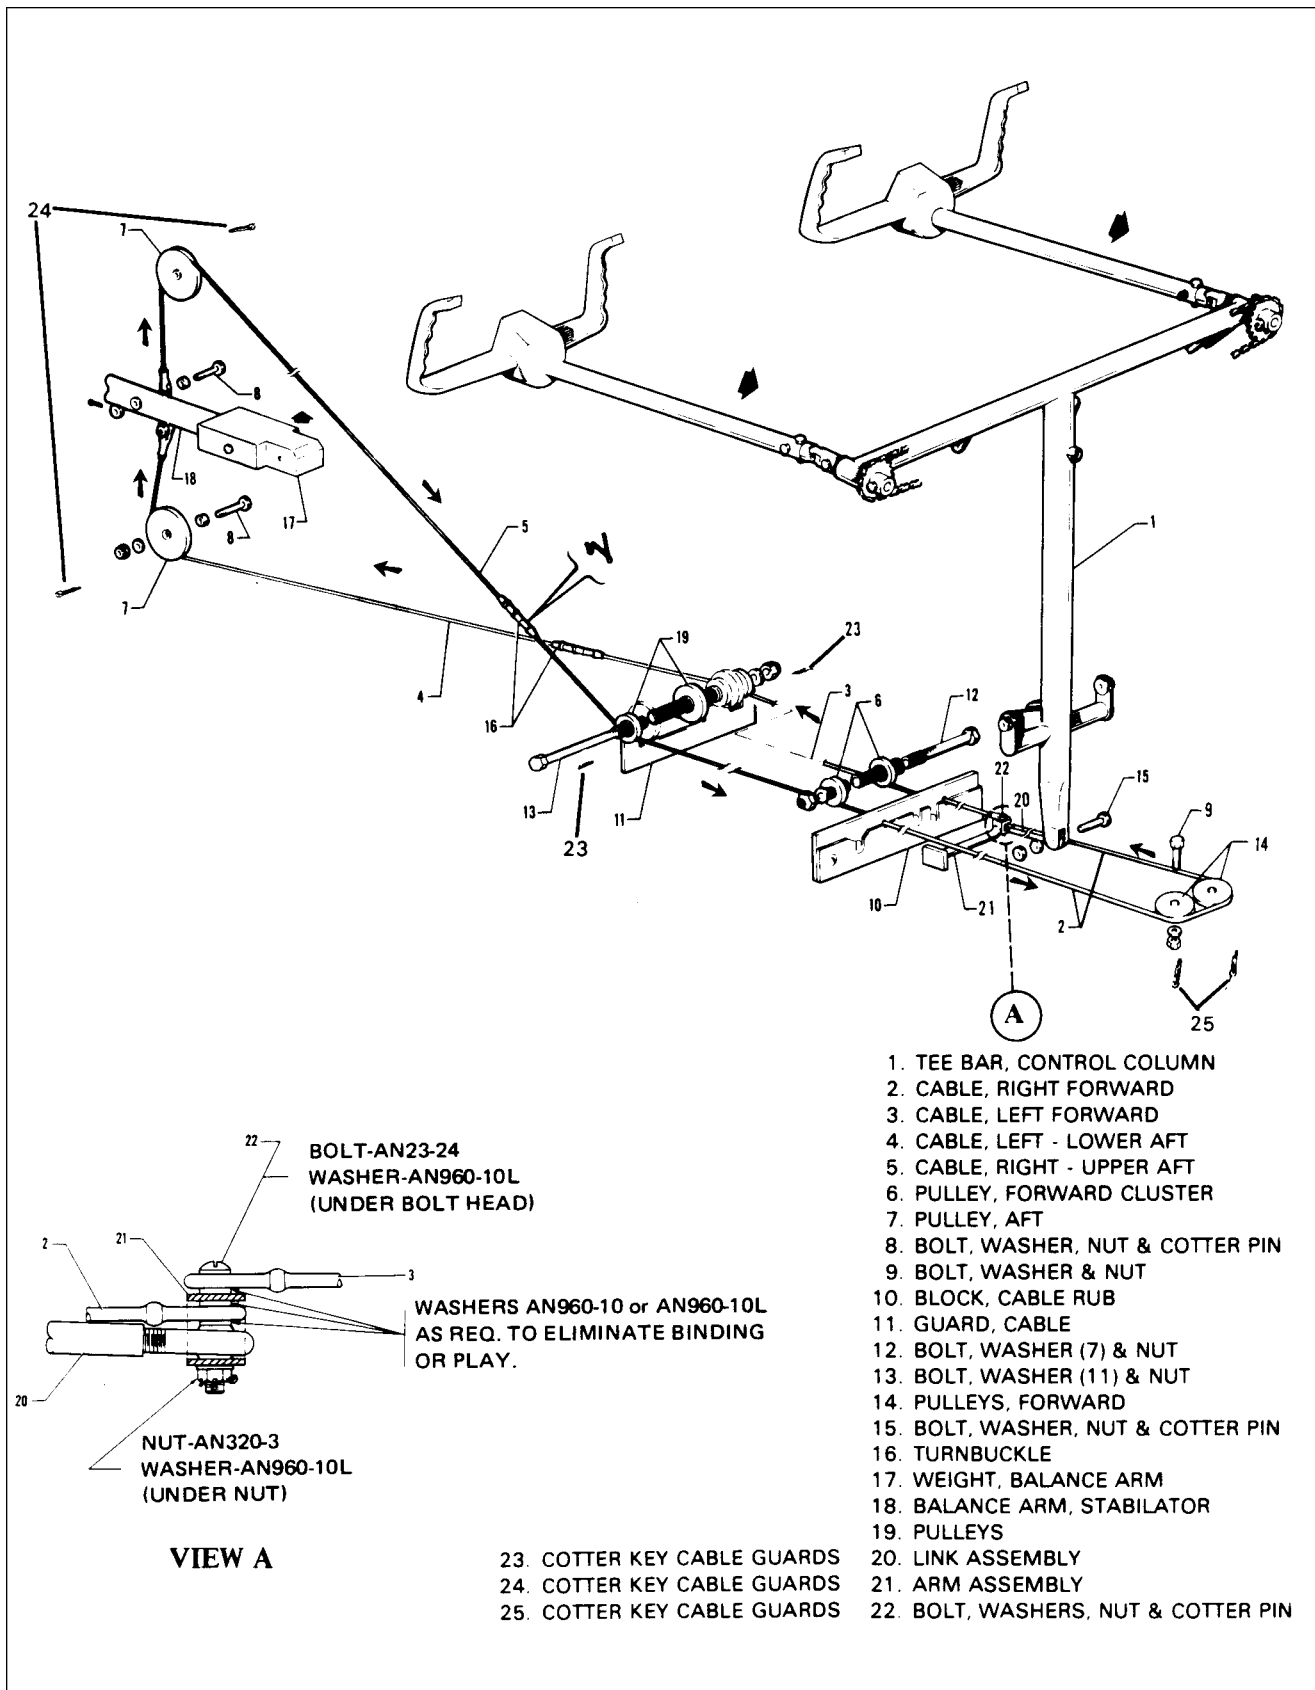

Figure 5-6. Stabilator Controls
#### 5-14. REMOVAL OF STABILATOR CONTROL CABLES. (Refer to Figure 5-6.)
#### 5-15. INSTALLATION OF STABILATOR CONTROL CABLES. (Refer to Figure 5-6.)
- 1. Draw the control cable through the floor tunnel. Ascertain that the right (upper) cable (2) is routed around the pulleys (14) in the forward area of the floor tunnel.
- 2. Position the stabilator cables (2 and 3) into the arm assembly (21) along with the link assembly (20). (Refer to Figure 5-6 View A for correct positioning of components.) Secure the complete installation with bolt, washers, nut and cotter pin (22). Ascertain that no binding or excessive end play is evident in the hookup.
- 4. Connect the control cable to the aft cable at the turnbuckle (16) in the aft section of the fuselage. Apply partial tension to cable to keep it positioned on pulleys.
- 5. For the right control cable (2), install the cotter pin cable guards at the pulley(s) (14) in the forward area of the tunnel.
- 6. Within the access opening aft of the main spar, install the cable run blocks (10) to the spar housing and secure with screws.
- 7. In the access opening, install the cotter pin cable guard at the pulley cluster (6).